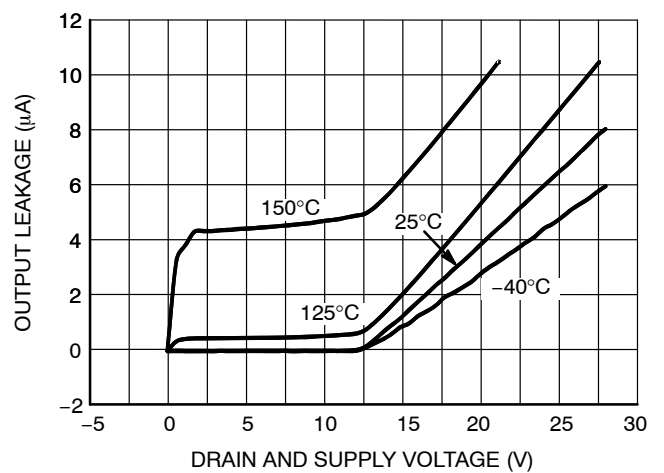

Figure 16. Standby Output Leakage vs.  $VS$
- Refer to Figure 16 for output leakage current behavior.